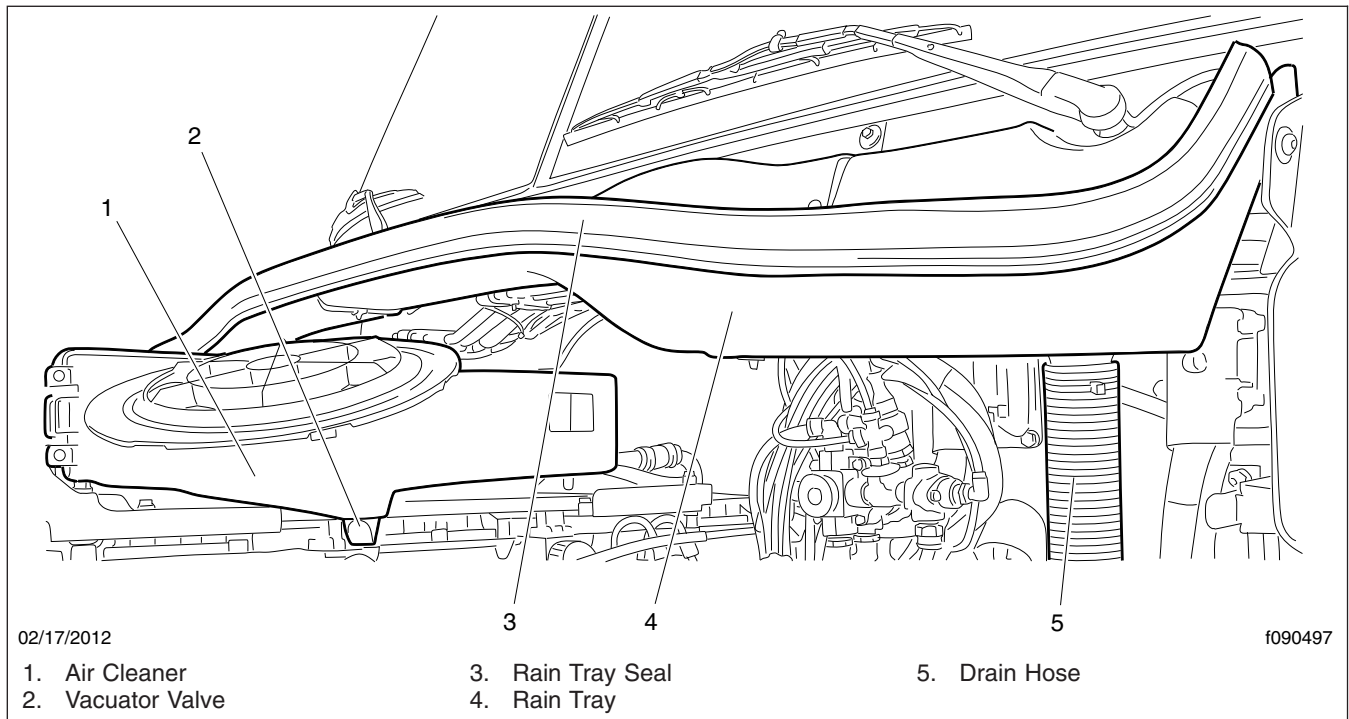
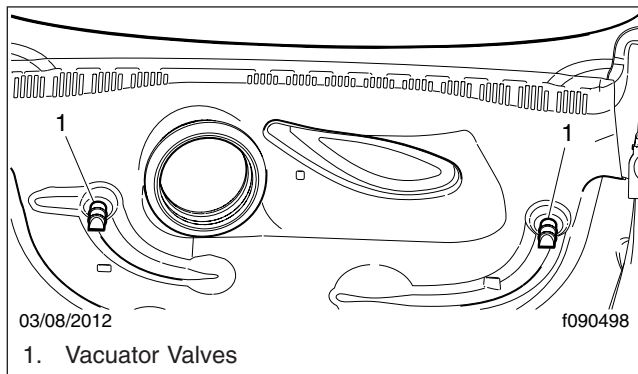

Fig. 21.13, Rain Tray Assembly
Fig. 21.14, Hood Interior
- 3.1 Inspect the vacuator valve(s) installed on the hood interior and air cleaner. Make sure the lips of each valve are undamaged and pliable, free of debris, and remain closed during inspection. See Fig. 21.13 and Fig. 21.14.